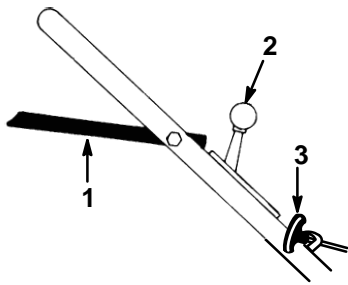

Figure 8
2. Move throttle to  (Choke) (Fig. 8).
3. Lift the blade control bail to the handle and hold. (Fig. 8).
4. Pull the starter handle lightly until resistance is felt, then pull it sharply (Fig. 8). Allow the rope to return to the handle slowly. When engine starts, regulate throttle as desired. Allow the engine to warm up. During warm up, the equipment can be operated.